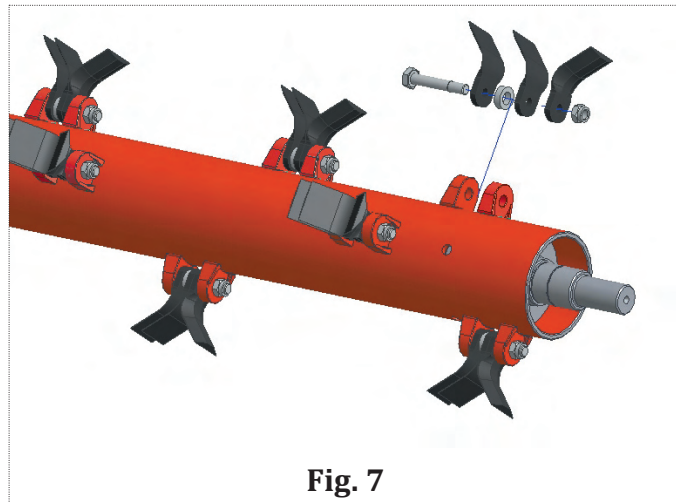

Fig. 7
- Remove the nut 1 (**Fig. 7**) of the bolt that fastens the worn hammer. During the assembly phase, make sure that the new hammer is fixed in the same position;
- Remove the nut 1 (**Fig. 7**) of the bolt that fastens the worn tines. Take care to check the positions of the various components, particularly the spacers 2 (**Fig. 7**). Make sure that the new tines and components are assembled in the same positions.